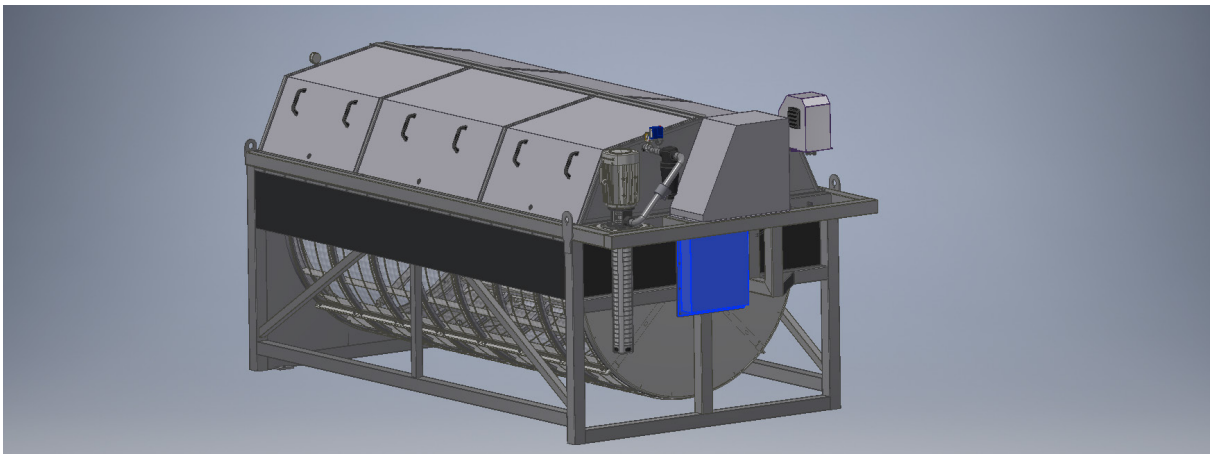

Figure 2.2 Removing the chain tray.
4. Remove the chain tray to get access to the shaft and bearing house (see figure 2.2).